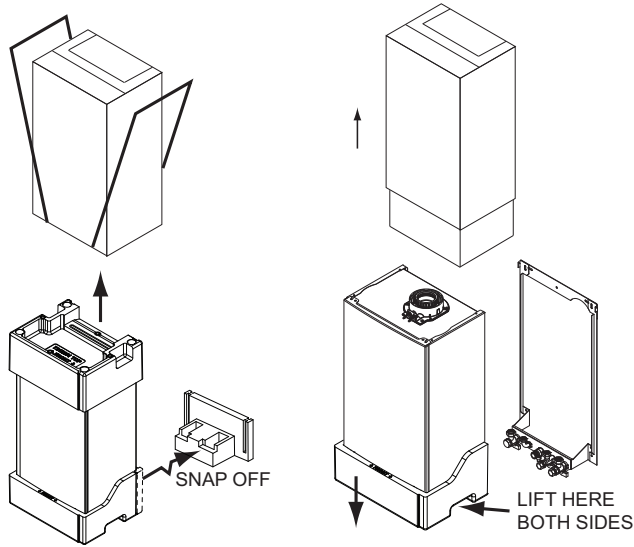

Fig. 16
### 8.5 Flue Deflector (Fig. 16)
2. Follow the procedure on the carton to unpack the boiler or see Fig. 16.